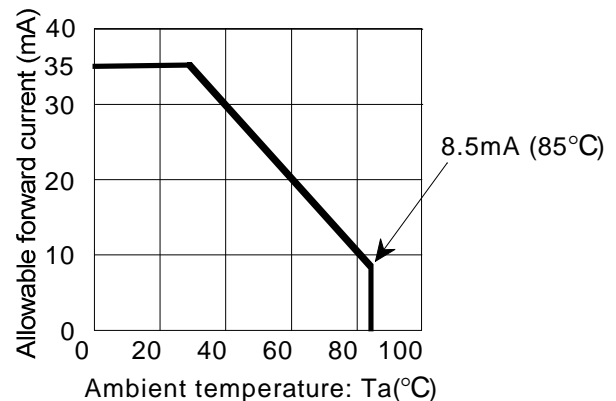

Fig.1 Ambient Temperature vs. Allowable Forward Current
(3) Applies to the RESET, ID, SDI, SCL, CS*, VSYNC, HSYNC, DOTCLK and PD17 to PD0 pins.
(4) Applies to the SDO.
(5) Ta = 25°C, per piece of LED.
(6) Refer to Fig.1.
(7) 100 pF-1.5k ohm, 25°C-70%RH